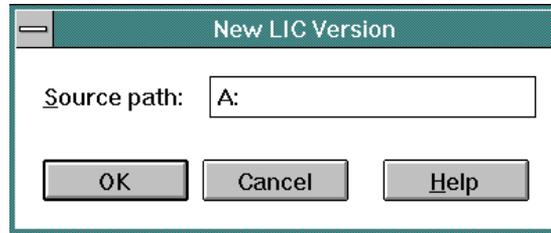

Figure 165. New LIC Version Dialog Box
4. Click the *New* button. The *New LIC Version* dialog box appears (Figure 165) with the diskette drive (**A:**) selected as the default.